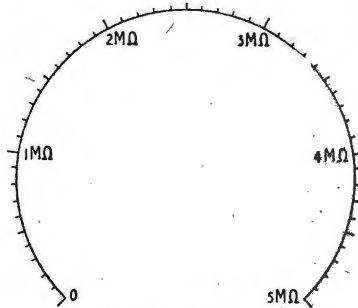

Fig. 3. Typical scale division— 54° per megohm with 270° total rotation.
the maximum resistance that can be measured. The value of the fixed resistors $R_7 + R_8$ is obtained by using equation (2). The maximum resistance that can be indicated on the scale of the potentiometer is found from equation (3). Then, by dividing the angle of effective rotation of the potentiometer slider by the maximum resistance, the number of degrees per megohm or kilohm can be found and the scale appropriately divided. Such a scale, with a maximum at 5 M Ω , for a potentiometer with a 270° angle of slider rotation—54° per megohm—is shown in Fig. 3.